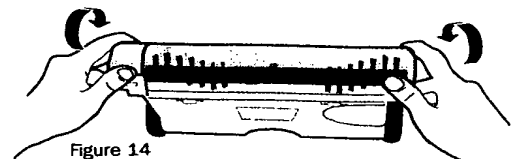

Figure 14
3. Place the Dust Container (4) back to the Main Unit (1).
4. Remove the Front Visor (6) to remove hair and fiber build up from the Brush Roll (5) and Edge Wheel (7), (fig.14).